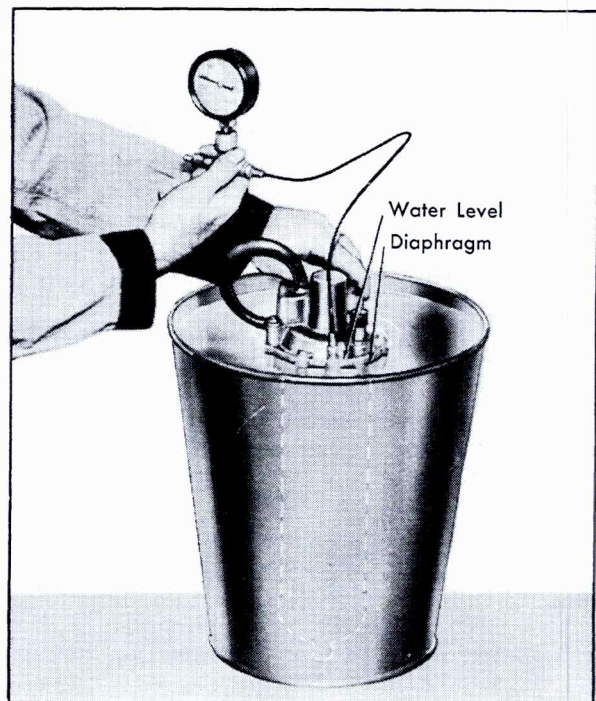

Fig. 4-15 Checking Compressor Assembly for Leaks
3. Route an eight inch rubber hose between vacuum and vent ports, Fig. 4-15.
4. While holding assembly in a vertical position with reservoir end down, immerse in water until the diaphragm is just submerged, Fig. 4-15. Do not submerge completely, as water can enter around the cover gasket. Observe for air leaks at: Reservoir weld seam.